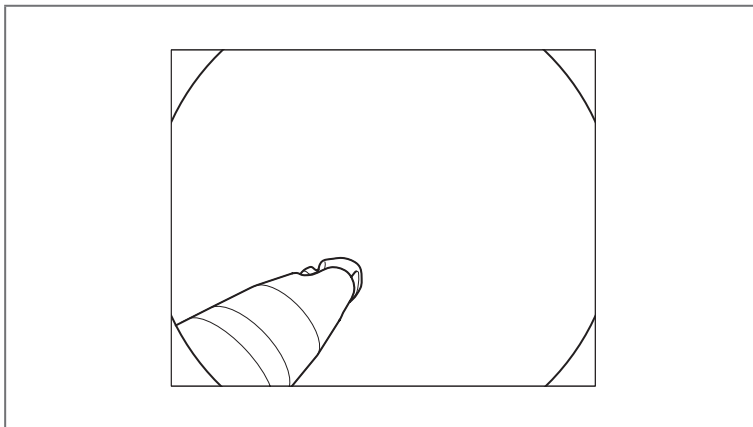

Figure 4.7
2. Slowly insert the endoscopic device, and check that the distal tip of the endoscopic device is within the field of view. (See Figure 4.7)